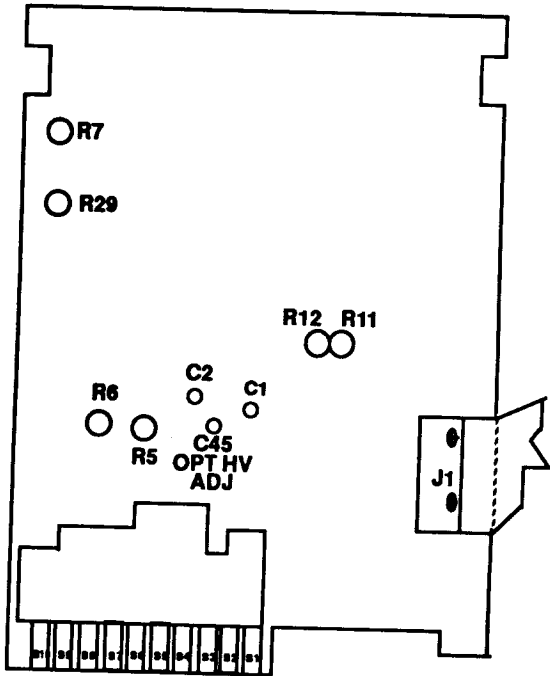

Figure 1. Adjustment locations.
- (1) Adjust R12 (fig. 1) for a TI indication of 190.00 (R).
- (2) Adjust R11 (fig. 1) for a TI indication of 1.9000 (R).
- (3) Adjust R5 (fig. 1) for a TI indication of 190.00 (R).
- (4) Adjust R6 (fig. 1) for a TI indication of 1000.0 (R).
- (1) Set TI range to **2** and calibrator for a 1.9 V, 45 Hz output. Adjust R7 (fig. 1) for a TI indication of 1.9000 ( $\pm 5$  digits) (R).
- (2) Set calibrator for a 100 mV, 45 Hz output. Adjust R29 (fig. 1) for a TI indication of .1000 ( $\pm 1$  digit) (R).
- (3) Repeat (1) and (2) above until no further adjustments are required.
- (4) Set TI range to **20** and calibrator for a 19 V, 10 kHz output. Adjust C1 (fig. 1) for a TI indication of 19.000 ( $\pm 10$  digits) (R).
- (5) Set TI range to **200** and calibrator for a 100 V, 10 kHz output. Adjust C2 (fig. 1) for a TI indication of 100.00 ( $\pm 5$  digits) (R).
- (6) Repeat (4) and (5) above until no further adjustments are required.
- (7) Set TI range to **750 V AC** and calibrator for a 750 V, 10 kHz output. Adjust C45 OPT HV ADJ (fig. 1) for a TI indication of 750.0 ( $\pm 10$  digits) (R).
- (8) Repeat (4), (5), and (7) above for the best compromise or until no further adjustments are required.